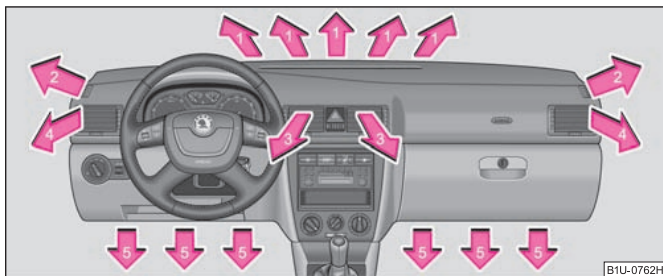
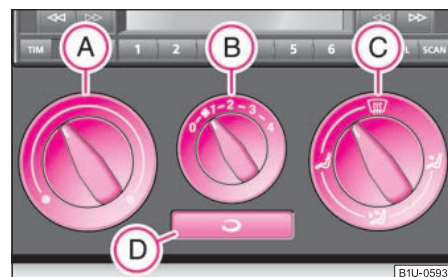

Fig. 99 Air outlet vents
Fig. 100 Heating: Control elements
You can set the air supply to the individual air outlet vents using the control **C** ⇒ fig. 100. Air outlet vents **3** and **4** ⇒ fig. 99 can also be opened or closed individually.
Unwarmed or cooled air will flow out of the opened air outlet vents according to the setting of the control dial **A** ⇒ fig. 100 and according to outer atmospheric conditions. ■
- Turn the control dial **A** ⇒ fig. 100 to the right in order to increase the temperature.
⇒ page 83, fig. 100.